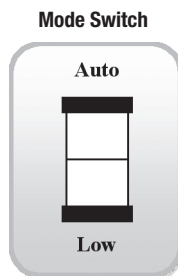

Figure 5
2. To install the remote Mode Switch (Figure 5), connect one pole of the switch to the Auto/Low wire and the other pole to ground.
To begin operation simply set the switch to the '**ON**' position (Figure 7), set the Mode switch (Figure 5) to the Auto position, **AND** open the **HOT WATER** faucet you want to use. The unit will automatically light and start heating your water. **DO NOT** use cold water to adjust the temperature.